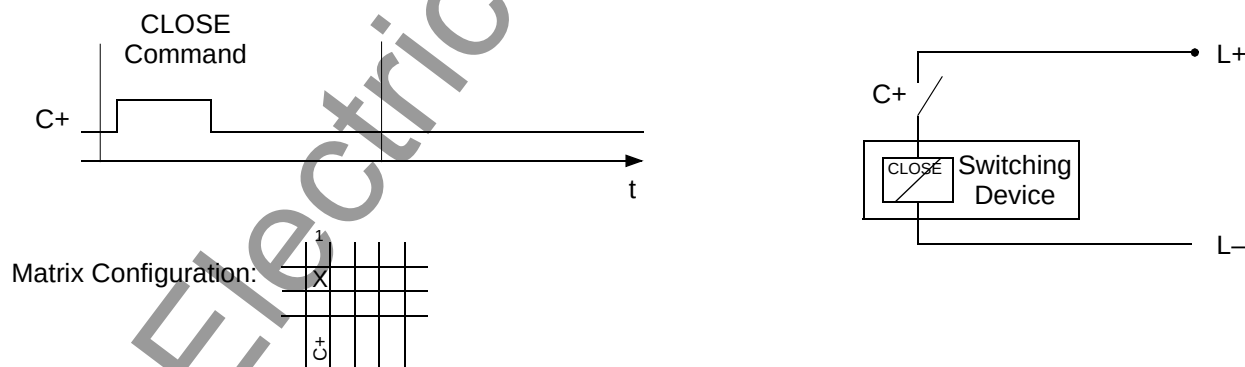

Figure 5-4 Single command with single contact
- ❑ Set for each device whether it should trip 1pole, 1¹/₂ pole or 2pole, with single or double point indication, with or without feedback (see Table 5-1 and Figure 5-4 to 5-9). Thus the necessary quantity of the information to be processed is calculated and the type of command is determined.
For Figures 5-4 through 5-9, the following abbreviations apply: